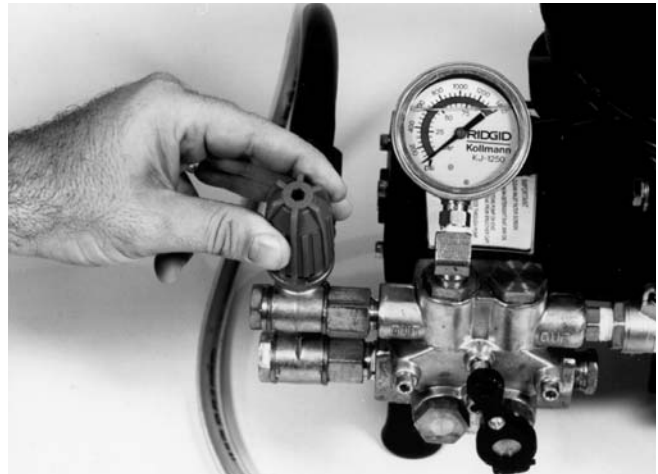

Figure 4 – Adjust the unloading valve
2. On the KJ-1750, adjust the unloading valve so that the pressure gauge shows 1750 PSI (green zone). At this pressure, the KJ-1750 draws approximately 17 amps when supplied with 115 volt A/C current. (*Figure 4*)